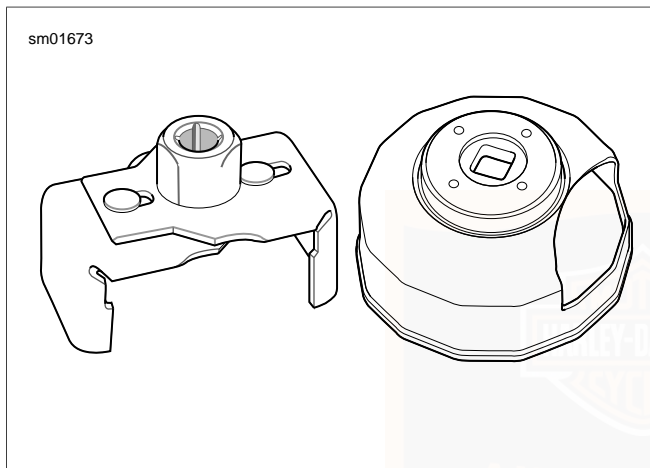
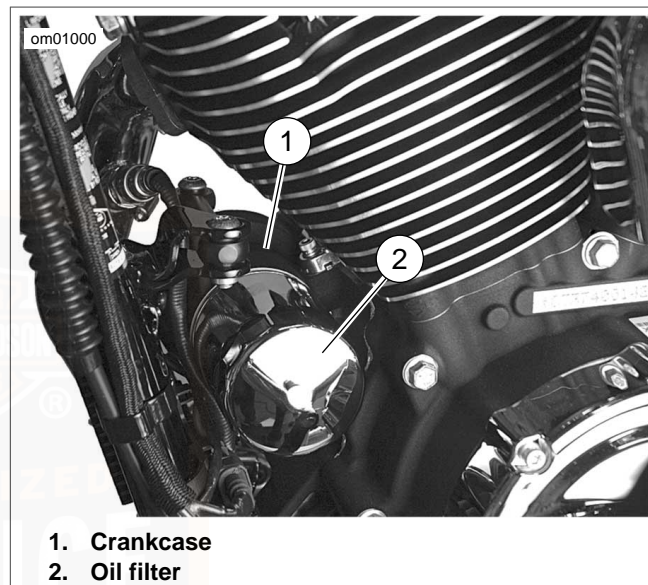

Figure 33. Oil Filter Wrenches
Figure 34. Oil Filter: Sportster Models (XL Model Shown)
2. See Figure 33 and Figure 34. Remove oil filter using OIL FILTER WRENCH (Part No. HD-42311 or HD-44067-A). Turn oil filter counterclockwise to remove from filter mount.